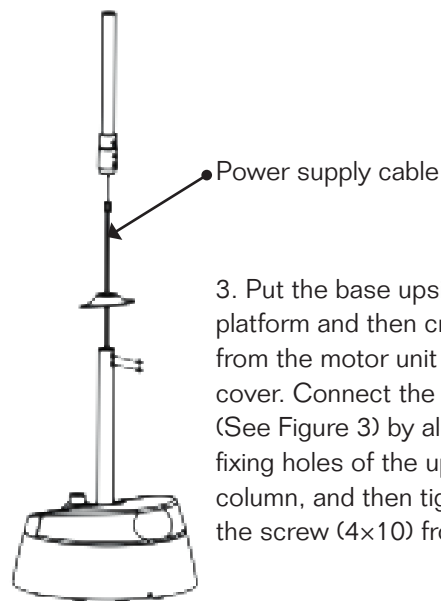

Figure 3
3. Put the base upside down on a platform and then cross the cable from the motor unit through the base cover. Connect the two iron columns (See Figure 3) by aligning the two fixing holes of the upper and lower column, and then tighten them with the screw (4x10) from the package.